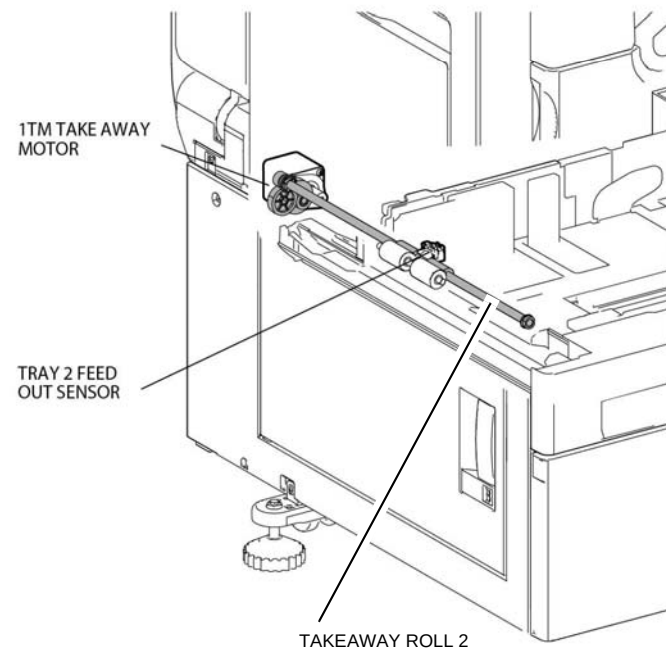

Figure 5 1TM takeaway
- Tray 2 1TM, Figure 5.
When feeding from tray 3 or tray 4 of a 3TM, the takeaway motors of all the above paper trays are energized and drive their associated takeaway rolls, Figure 5. At the same time the tray 3 or 4 feeder is activated and paper is fed from the feeder onto the associated takeaway roll (3 or 4). Trays 3 and tray 4 have no feed out sensors. The takeaway motors for trays 1, 2, 3 and 4 will stop when the registration sensor detects the lead edge of the final sheet in a print job.